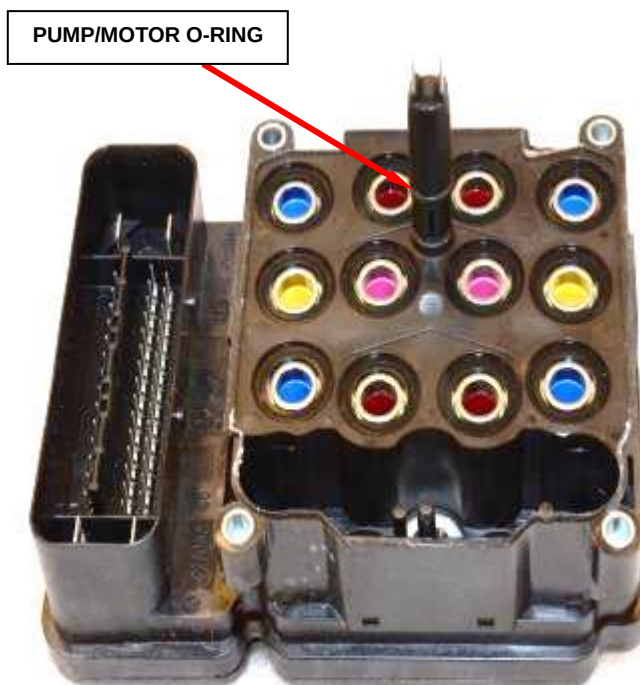

Figure 23 – Pump/Motor O-Ring
9. The pump/motor O-ring is provided with the NEW ABS module. Be sure the O-ring is properly seated in the mounting groove (Figure 23).